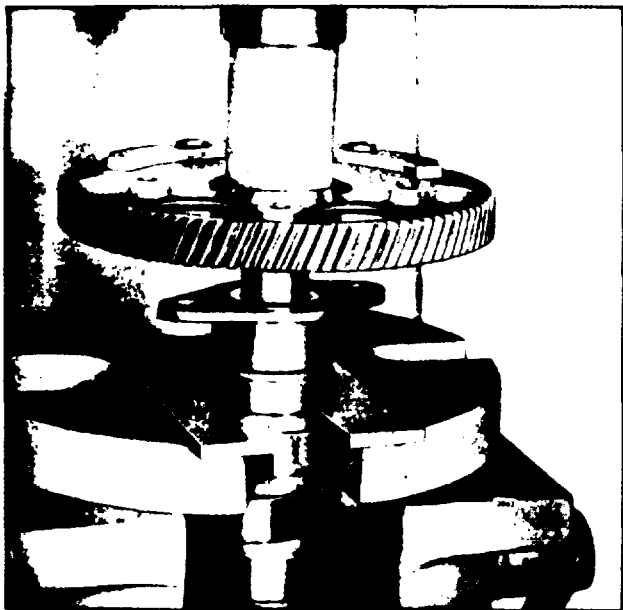

Fig. 2 Installing Camshaft Gear
5. Then, with the camshaft supported in an arbor press, place a sleeve on top of the gear and under the ram of the press. Bring the ram of the press down on the sleeve and press the gear tight against the spacer on the shaft (Fig. 2).